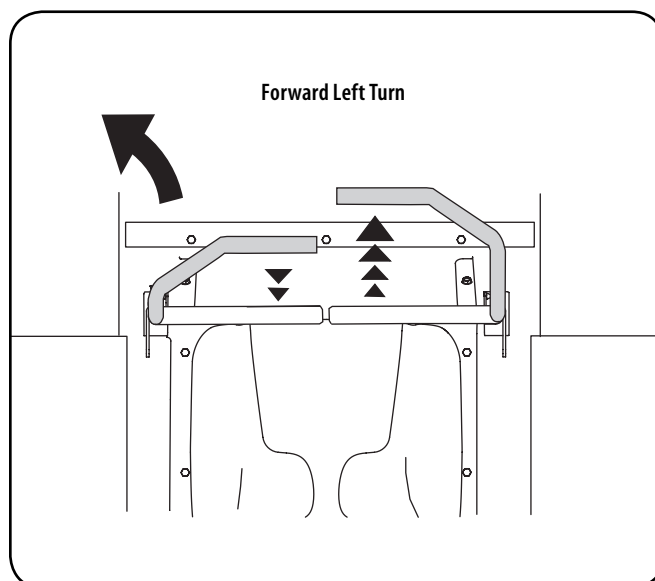

Figure 12
1. To turn to the left, move the left drive control lever rearward of the right lever. See Figure 12.